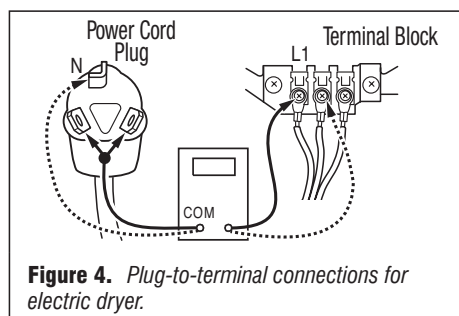

Figure 4. Plug-to-terminal connections for electric dryer.
3. With an ohmmeter, check for continuity between the neutral (N) terminal of the plug and the center contact on the terminal block. See figure 4.
4. In a similar way, check which terminal of the plug is connected to the left-most contact on the terminal block and make a note of it. This will be L1 (black wire) in the wiring diagram. See figure 4.